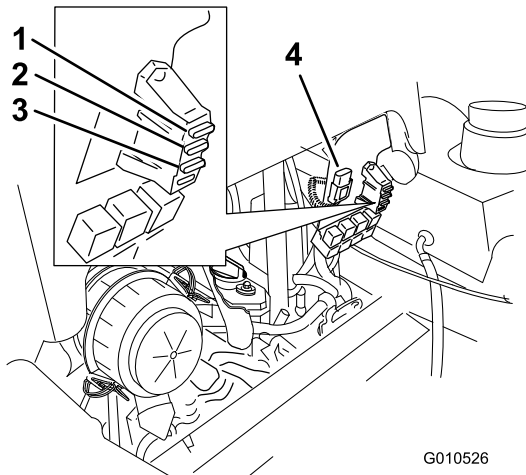

Figure 57
2. To replace a fuse, pull out on the fuse to remove it (Figure 57).